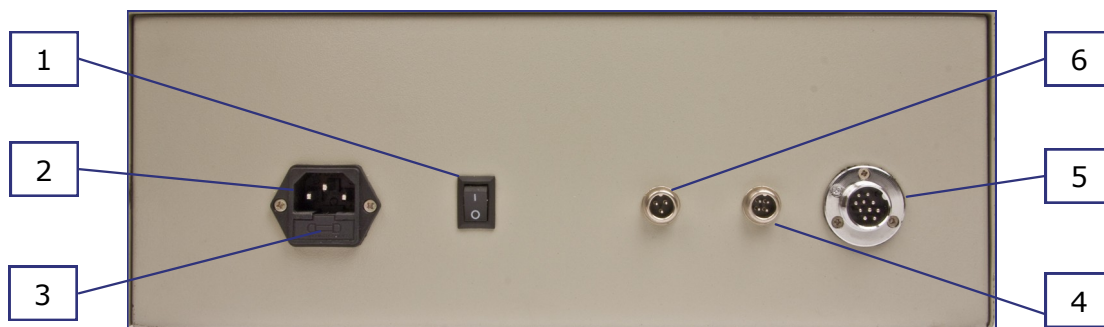

Figure 5
Figure 5 shows the rear panel of the control unit:
- Position the control unit close to the oven and connect the free ends of the multi-pole cables from the oven to the appropriate sockets on the rear panel of the control unit (4, 5 & 6, *Figure 5*), being careful to observe the correct orientation as before.
- Connect the power cord to the socket on the rear of the control unit (2, *Figure 5*), then to a 110VAC/60Hz outlet.
- Switch on the control unit at the rear panel (1, *Figure 5*). The controller should display "Inp" then "120" or "120.0" to indicate the maximum allowed PV and SV programmed into the controller. After a few seconds, the displays will change to indicate the current PV and SV.